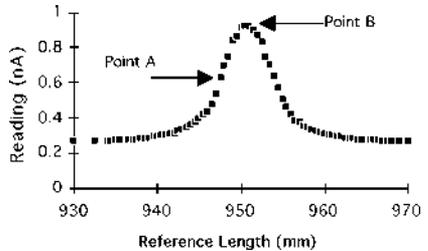

Figure 2: Representative response curve using HDR QA Tool insert of Fig. 1. The high slope region is designated A and the plateau region is designated B.
This response curve is shown in Figure 2. For checking positional accuracy, the high slope regions of Figure 2, designated point A, are the most useful. For checking dwell time and activity, a plateau, designated point B in Figure 2, rather than a peak is desired. With this tool, the source position verification, timer accuracy and consistency of the source activity can be measured in a simpler manner by using the method described below.
3. The first time the tool is used, take data to determine points A (slope) and B (plateau) as shown in **Figure 2** to document the position on the HDR system. Point A should be where the reading equals about 0.5 of the difference between the maximum value and the trough value. Point B should lie in the middle of the maximum plateau. Program the HDR unit to begin 40 mm from the bottom of the well, and move by the finest increments to 60 mm from the bottom, stopping for 10 seconds at each dwell position. Record the current reading at each position. If your HDR unit is unable to determine millimeter sized steps, reprogram the unit starting with different beginning locations to fill in the readings between the first set of dwell positions.